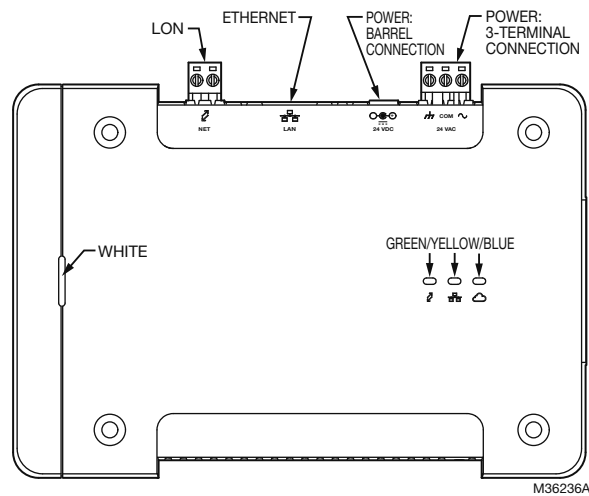

Fig. 2. LCBS Connect Gateway diagram.
6. There are four LEDs on the gateway to convey the status of a specific function as indicated by the adjacent icon (Fig. 2). The behavior of the LEDs will provide troubleshooting guidance when checking the connectivity of your system.